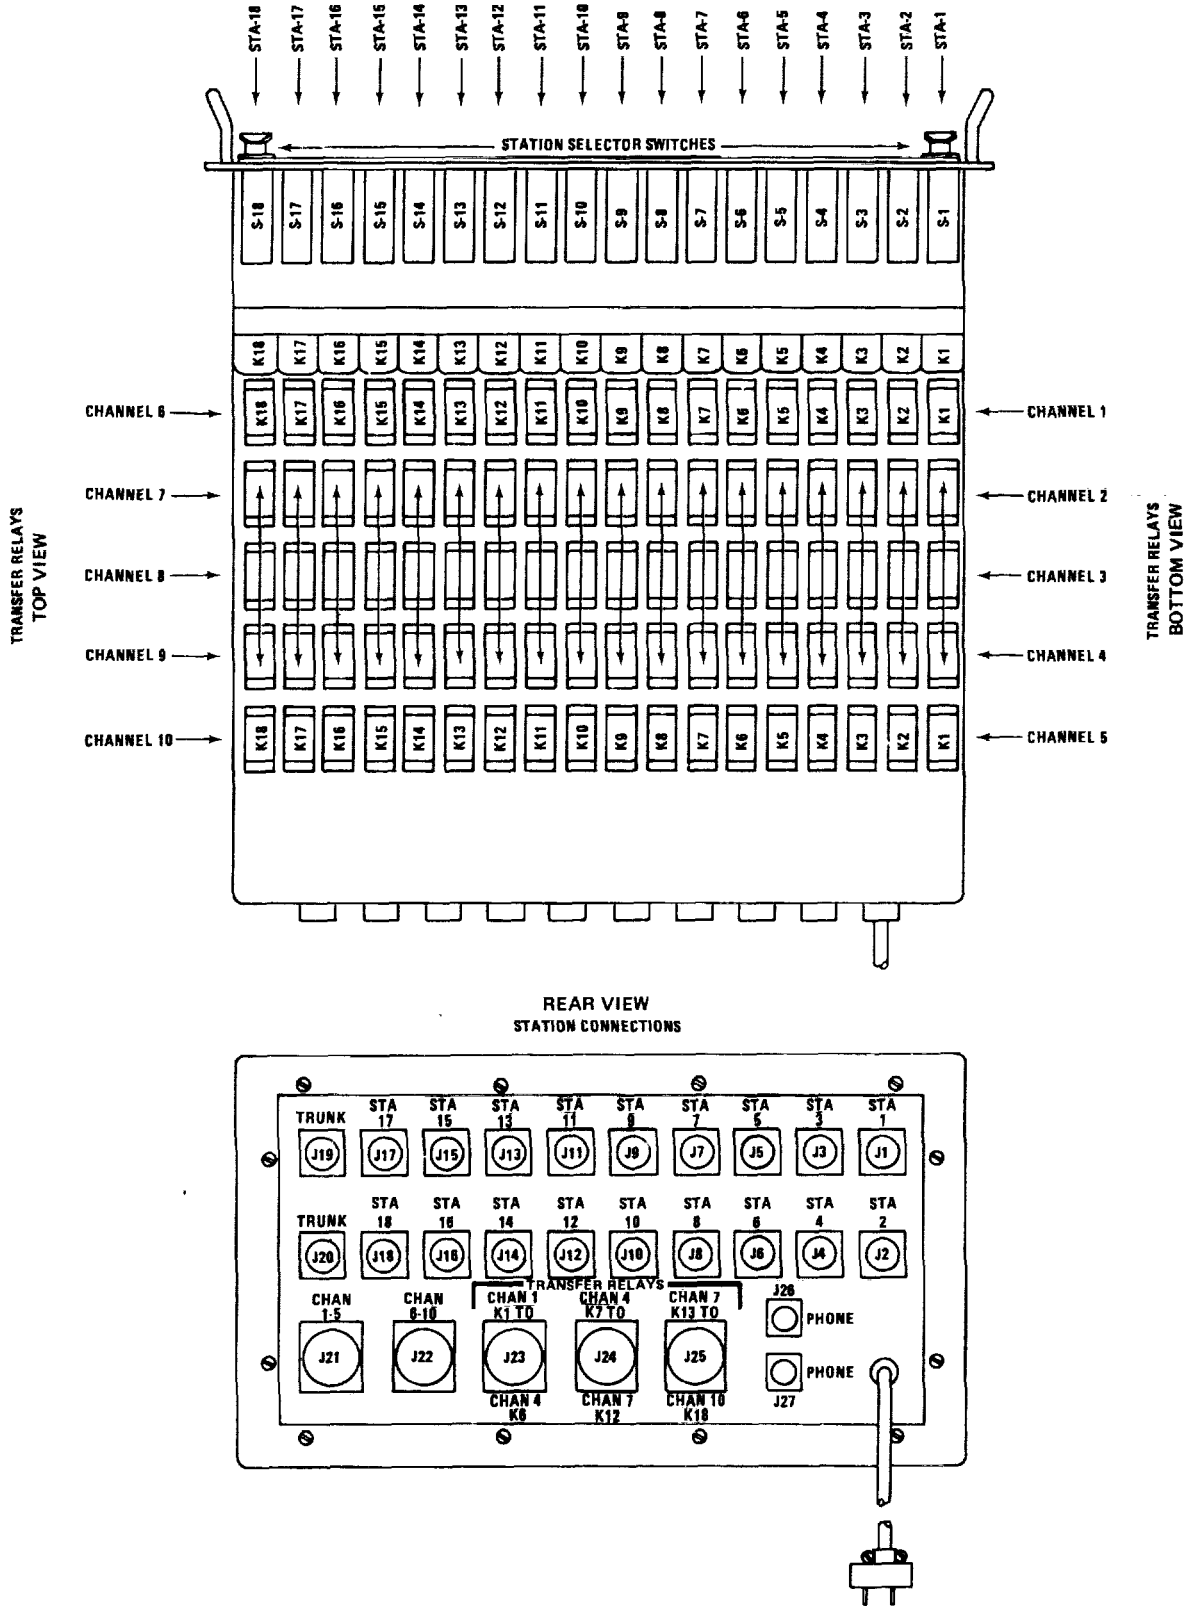

Figure 7-3. Location Diagram, Communications Control Console OA-7735/G
(1) *Location Diagram.* Refer to figure 7-3. There are 18 identical stations. Corresponding switches and relays are shown in numerical sequence. A rear view of the CCC panel indicates the proper jack location for station, trunk, phone, and channel transfer relay connections.